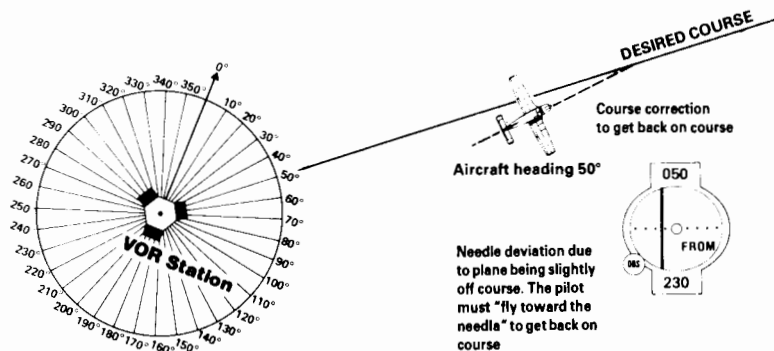

**Figure 12. Flying to a VOR Station**
1. Select a VOR station on the map and tune the NAV1 receiver to the station. Refer to Fig. 12.